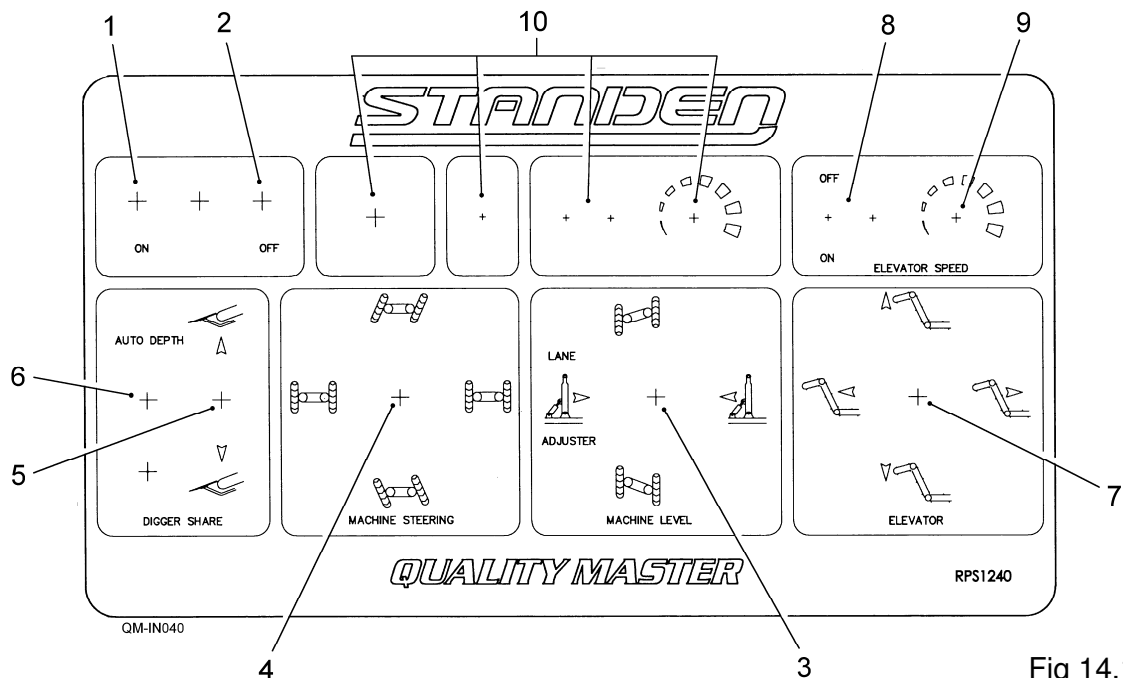

Fig 14.1
The buttons (item 1 & 2, fig 14.1) turn the control box ON and OFF. The adjacent LED will illuminate when the box is switched ON.
The joystick (item 3, fig 14.1) controls the drawbar lane adjuster ram and machine levelling ram. The lane adjuster ram moves the front of the harvester to the left / right in relation to the tractor. The levelling ram raises / lowers the RH side of the machine.
The joystick (item 4, fig 14.1) controls the wheel steering left / right and self-centring circuit. The angle of the wheels is displayed by the steering indicator (see fig 4.2). To centre the wheels automatically, move and hold the joystick forward or backward (indicated by the symbols) until the wheels have returned to the centre (straight ahead) position.
The switch (item 5, fig 14.1) raises / lowers the digger shares in and out of work. The switch (item 6, fig 14.1) turns the automatic depth control ON / OFF.
The joystick (item 7, fig 14.1) controls the discharge elevator bottom section fold in / fold out function, and the top section (swan neck) raise / lower function.
The button (item 8, fig 14.1) turns the discharge elevator web drive ON / OFF. The dial (item 9, fig 14.1) controls the speed of the discharge web.
The switches (item 10, fig 14.1) are used when various options such as; picking-off table, auto levelling, vari-web, oscillator, electric pitch agitator etc. are fitted. When a picking off table is fitted, the communication buzzer can be sounded by the operatives at the rear of the machine to attract the drivers attention.